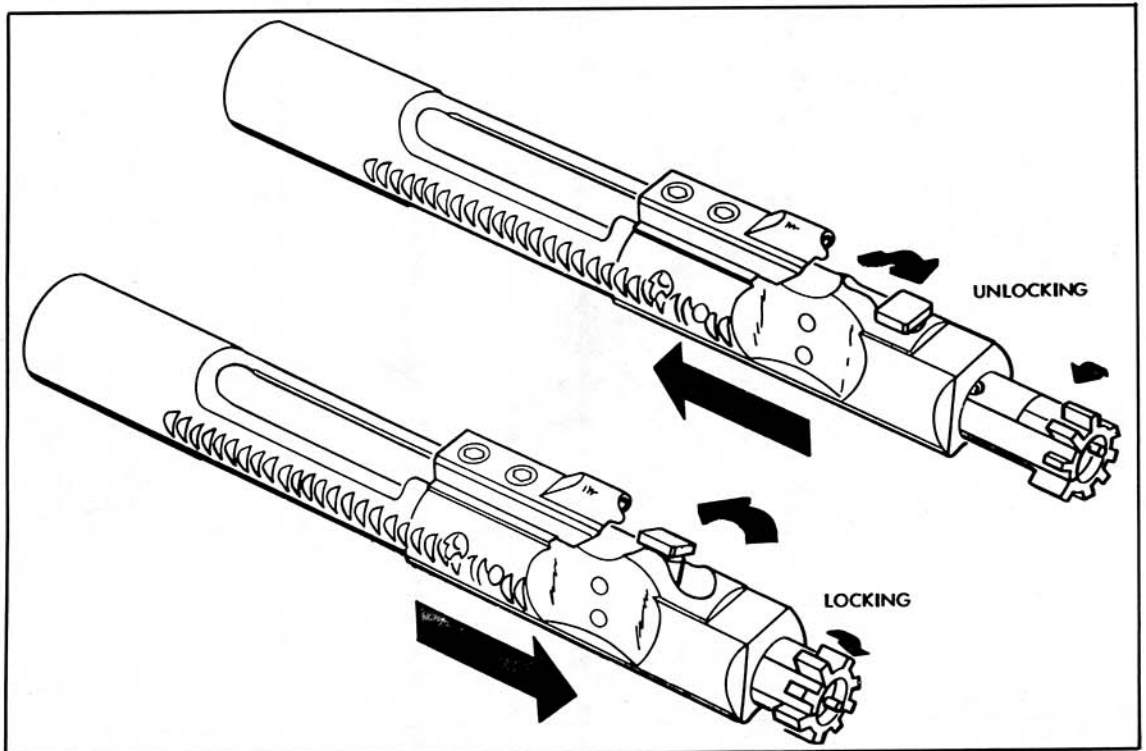
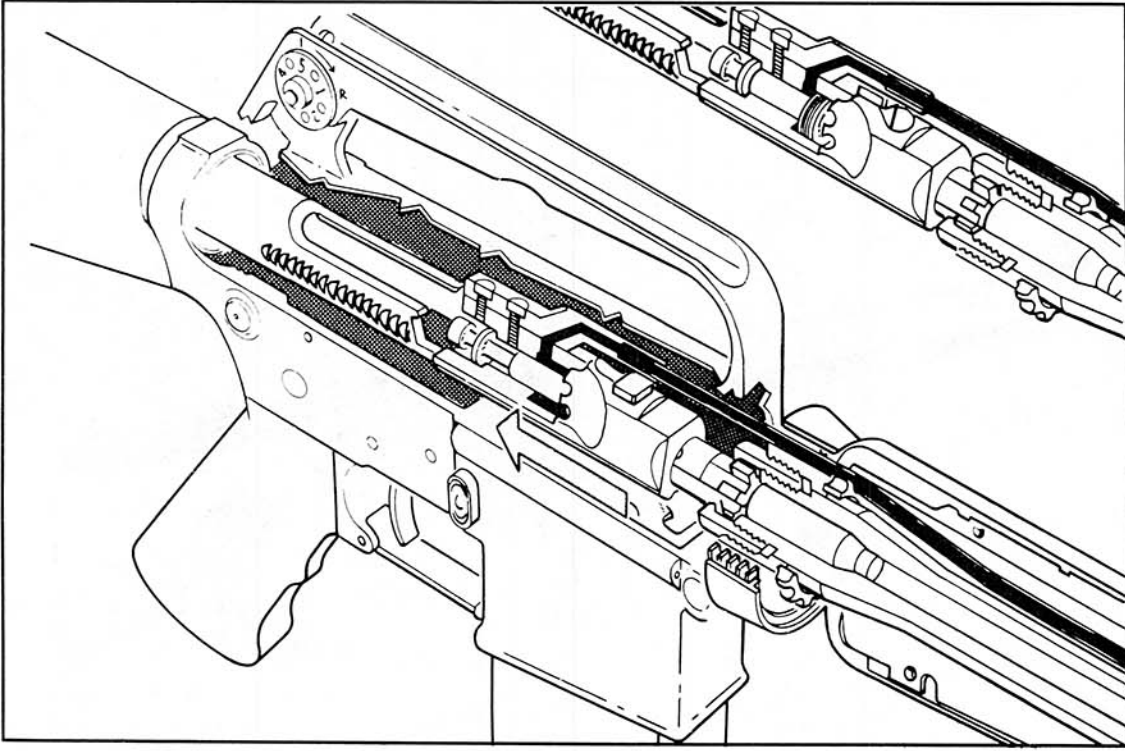
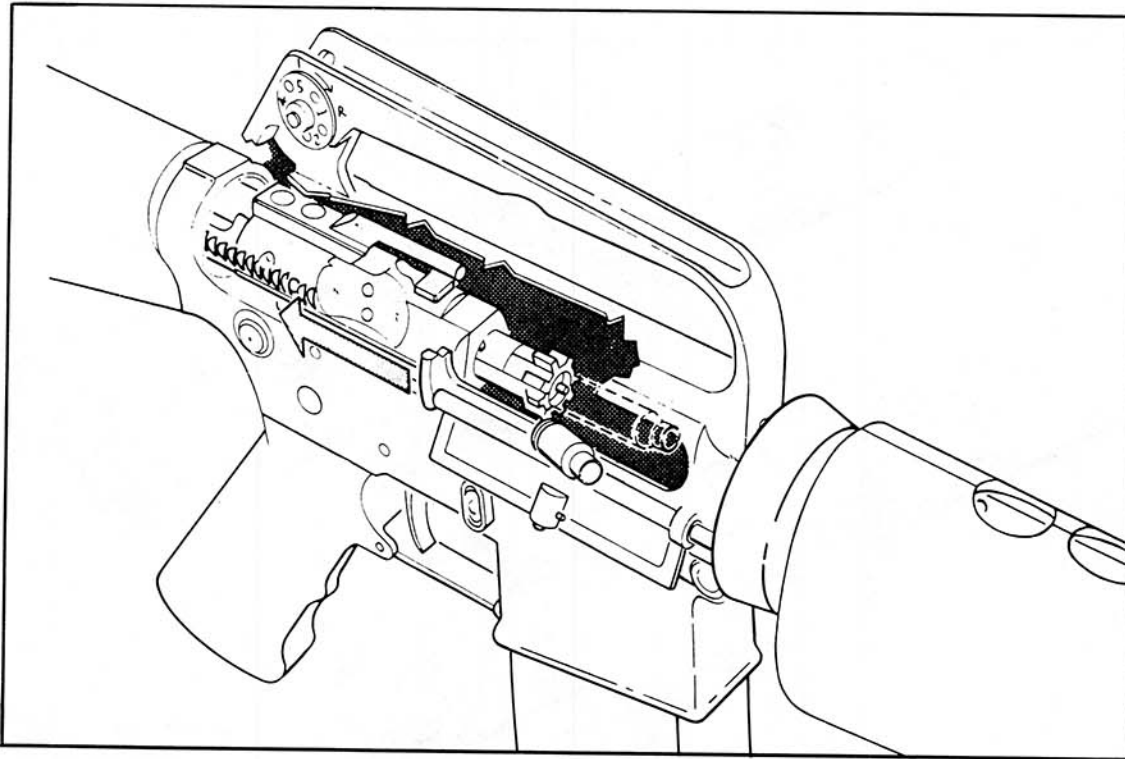

Figure 2-30 Bolt Locking and Unlocking
Figure 2-31 Extracting
Figure 2-32 Ejecting
- c. As the carrier moves rearwards it causes the bolt to rotate and unlock from the firing position, see Figure 2-30. The carrier and bolt go back together, cocking the hammer as they go. The extractor pulls the empty case with it until the case is freed from the chamber, see Figure 2-31. The ejector then forces it from the face of the bolt out through the ejection opening, see Figure 2-32. The rear of the carrier goes through a hole in the butt and compresses the return spring.